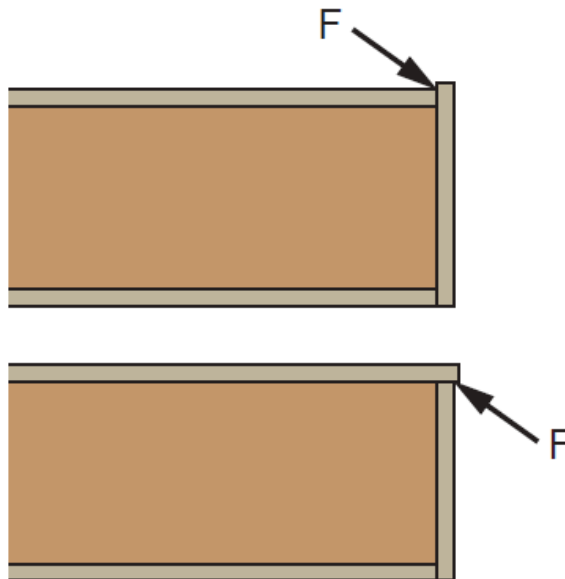

Figure 23 - Overlap
- b) Overlap (See Figure 23, F) shall not exceed: